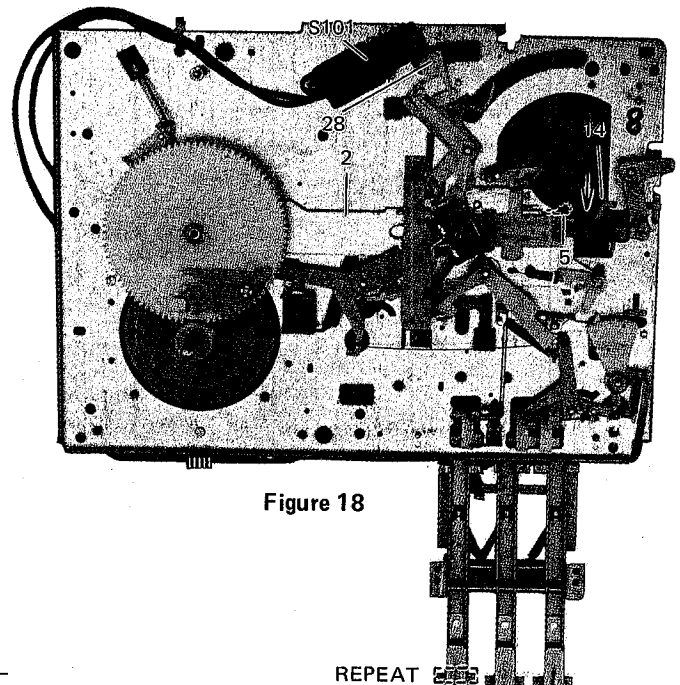

Figure 18
- (1) Pushing the REPEAT button, slides down Lead-in Slider (14) to scoop up Lead-in Click (5) and in this condition, Lever for Micro Switch (28) pushes Micro Switch (S101) to switch on when the START button is pushed. So Lead-in Click (5) is scooped up at every sliding to right direction of Return Lever Assembly (2) and carries out the Pickup Arm to starting point of the record disc. (Figure 18)
- (2) To stop repeat playing, push the STOP button to return up Lead-in Slider (14). So Lead-in Click for Return Lever (5) is not scooped up and leaves the Pickup Arm on the Pickup Stand in the returning cycle of Return Lever Assembly (2).
- (3) At the finish of returning cycle of Lever (2), Lever for Micro Switch (28) is returned to turn off Micro Switch (S101) and stops turntable.